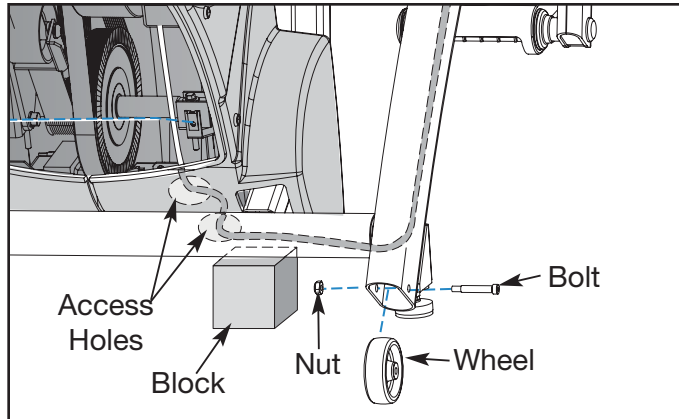
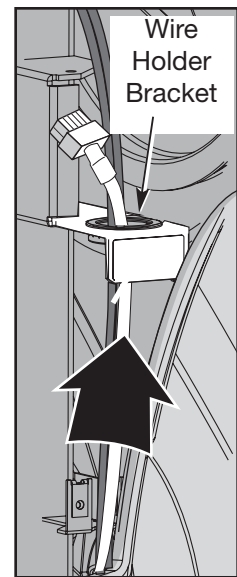

Figure 30
Figure 35
- B. Using a 9/16" wrench and a 3/16" Allen wrench, remove the bolt and nut securing the left wheel in place. See Figure 30.
- I.** Confirm that the cable is routed through the access holes (see Figure 30) and through the wire holder bracket (see Figure 35).
- A. Using a 9/16" wrench and a 3/16" Allen wrench, attach the bolt and nut securing the left transport wheel in position. See Figure 30.
- B. Turn the main power switch above the power inlet to the on (I) position.